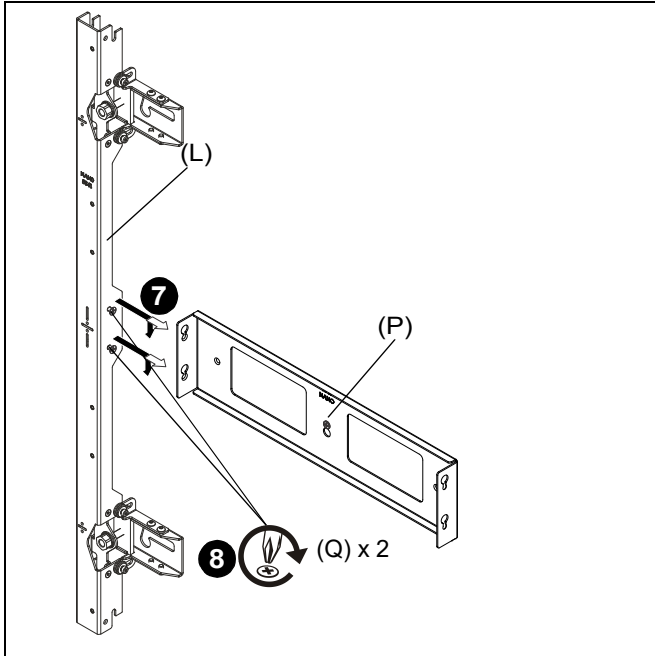

Figure 5
7. Hang left upright (L) onto side of spacer plate (P) using screws loosely installed in Step 6.
8. Tighten Phillips undercut machine screws (Q) to secure left upright (L) to spacer plate (P). (See Figure 5)